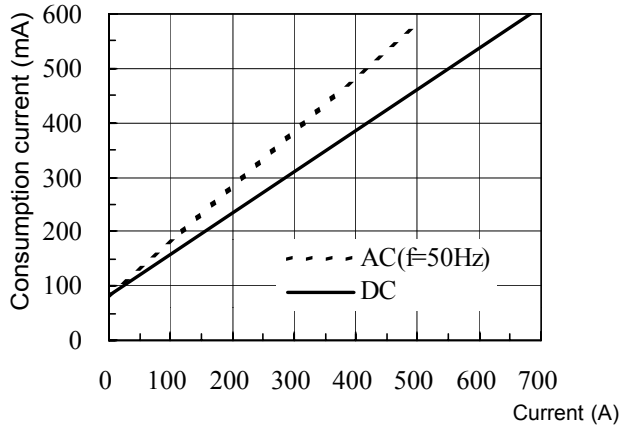

Fig.1
- (1) Check that the system is safe, and that the preparations described in the preceding section have been carried out.
- (2) Pull the sensor slider, so that the clamp opens.
- (3) Align the sensor so that the current direction indication corresponds to the direction of current flow through the conductor to be measured, and clamp so that the conductor is in the center of the sensor aperture.
- (4) Press the slider on the sensor head until the "UNLOCK" indication disappears, and hold it until LOCK appears, and check that the opening lever is firmly locked and the clamp securely closed.
- (5) It is now possible to monitor the current waveform. The output rate of the 3275 is 0.01 V/A. The current sensitivity can be derived from the voltage sensitivity of the waveform measurement instrument. For example, if the voltage sensitivity is 10 mV/division, the current sensitivity is 1 A/division.
- The current consumption of clamp-on probes depends on the current to be measured. Confirm that the total current consumption of the clamp-on probes does not exceed the rated output current of the 3272. See Figure 1.